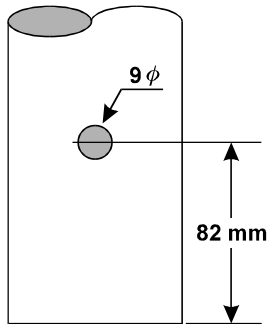

Figure 9
1. Drill a 9 mm diameter hole through both walls of the mast, centered 82 mm from the mast bottom (see Figure 9). Ensure the drill is maintained perpendicular and centered when making the holes, to ensure proper alignment of the holes in the mast with those in the base support clamp.